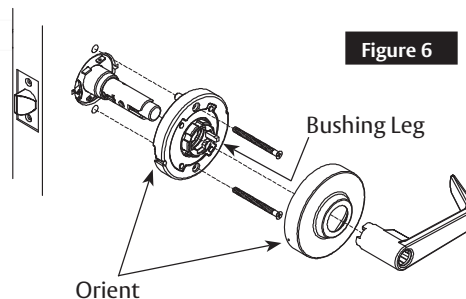

Figure 6
1. Align and insert inside rose support with plate onto the installed lockbody. The bushing leg should be on the side furthest from the latch (Figure 6).
2. Install (2) #10-32 x 2-1/4" screws, supplied to tighten the lock to the door.